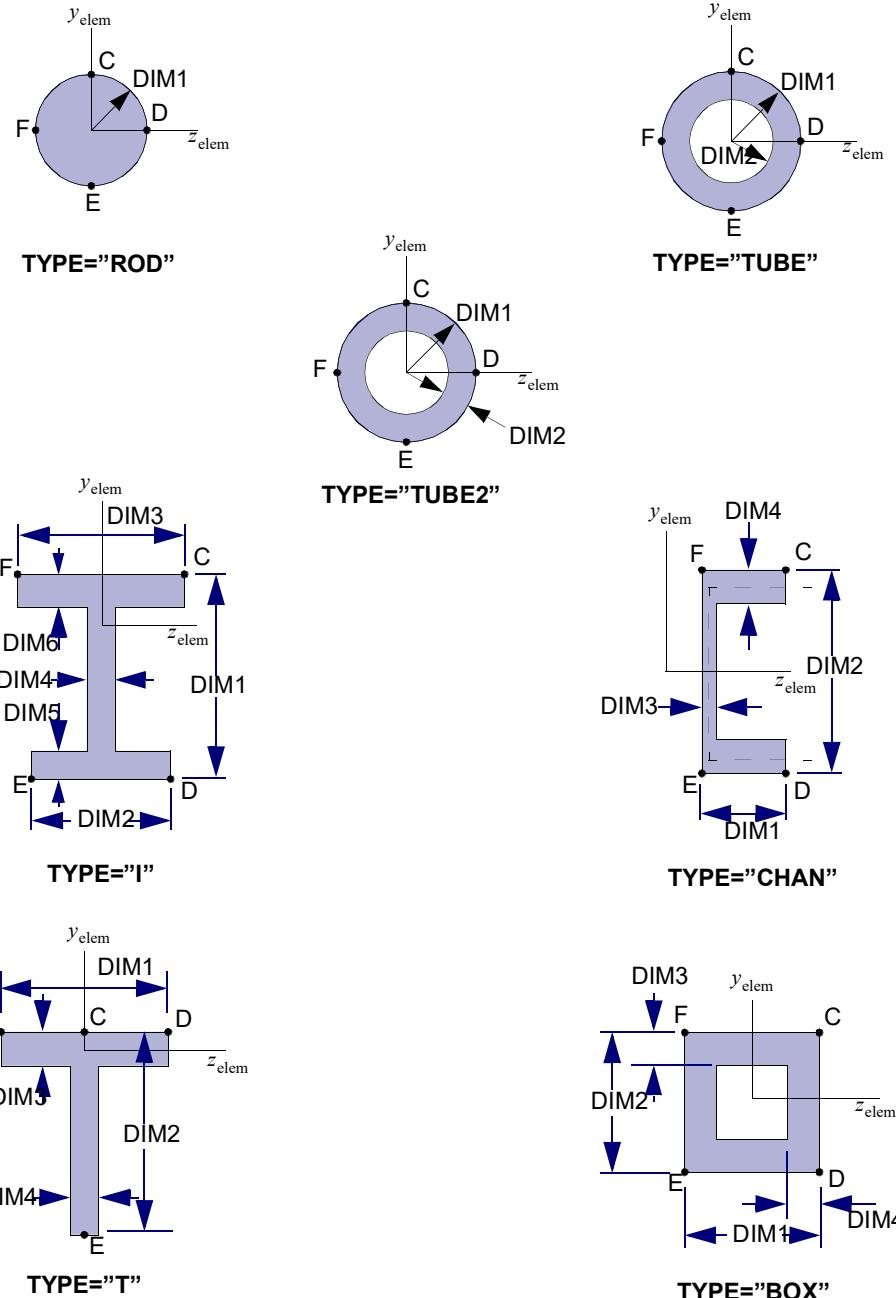
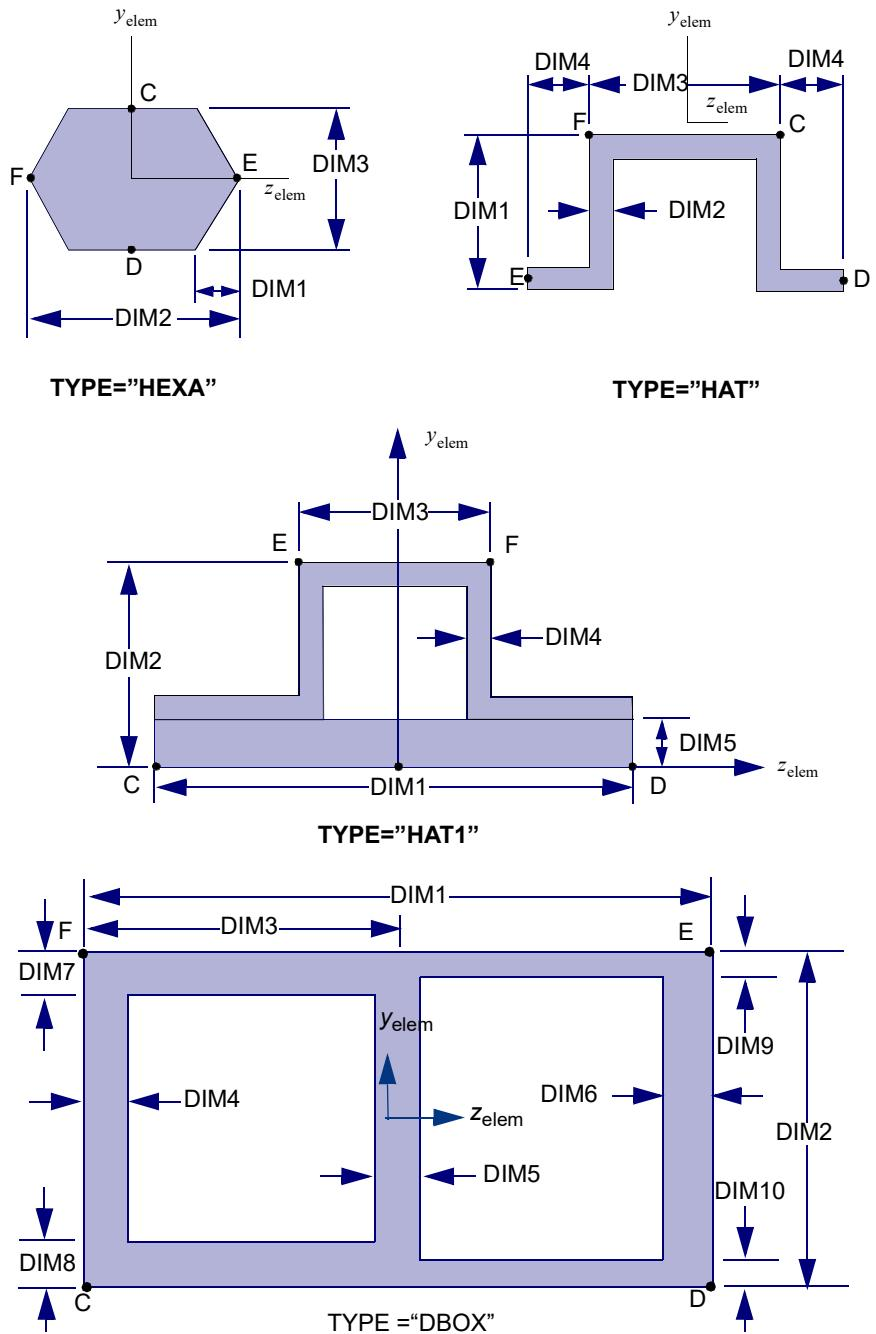

Figure 9-119 Definition of Cross-Section Geometry and Stress Recovery Points for GROUP = "MSCBML0"
Figure 9-122 Definition of Cross-Section Geometry and Stress Recovery Points for GROUP = "MSCBML0" (continued)
TYPE	Cross-section type. See Remarks 6. and 8. and Figure 9-119. (Character: "ROD", "TUBE", "TUBE2", "I", "CHAN", "T", "BOX", "BAR", "CROSS", "H", "T1", "I1", "CHAN1", "Z", "CHAN2", "T2", "BOX1", "HEXA", "HAT", "HAT1", "DBOX" for GROUP="MSCBMLO")
8. For GROUP = “MSCBML0”, the cross-sectional properties, shear flexibility factors, and stress recovery points (C, D, E, and F) are computed using the TYPE and DIMi as shown in Figure 9-119 through Figure 9-122. The figures show the origin of the cross section, but the PBARL does not account for differences between the shear center and the neutral axis and the properties are computed relative to the neutral axis. This results in approximations for section types ‘T’, ‘CHAN’, ‘T’, ‘CHAN1’, ‘T1’, ‘CHAN2’, ‘T2’, ‘L’ and ‘BOXI’. The PBEAML provides a better representation of section properties in these cases and is recommended.